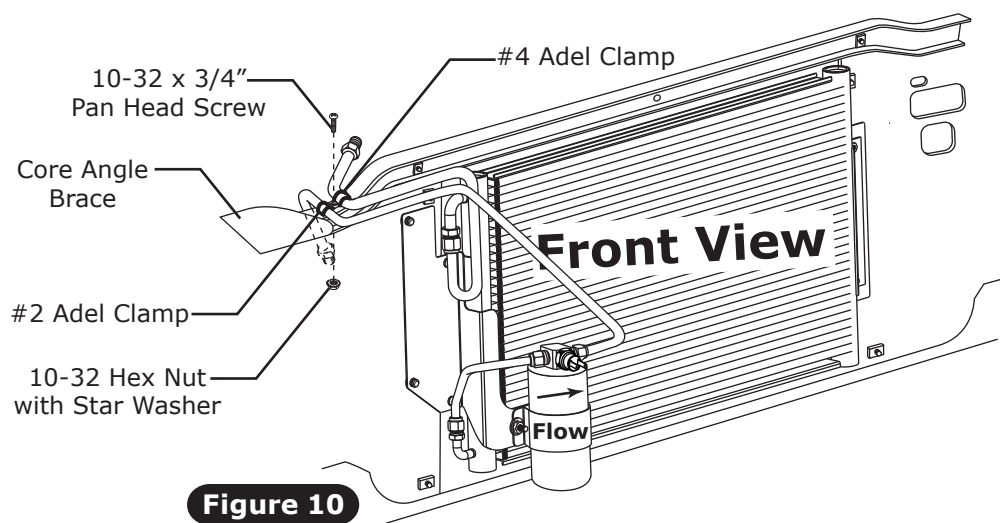

Figure 10
2. Locate the OEM hole along top of the core support between the #6 and #8 hardlines. Enlarge the hole to 3/16", being careful not to damage the hardlines. **NOTE: The core supports on some non-factory air vehicles may not have the OEM hole described above. In this case, measure 3/4" to the right of the lip on the core angle brace (See Figure 10, below), and drill a 3/16" hole in the center of the core support top between the (2) hardlines. When drilling, be careful not to damage the hardlines.**
3. Install a #2 Adel clamp on the #6 drier/core hardline, and a #4 Adel clamp on the #8 condenser hardline. Use a 10-32 x 3/4" pan head screw and a 10-32 nut with star washer to secure the hardlines together to the core support as shown in Figure 10, below.